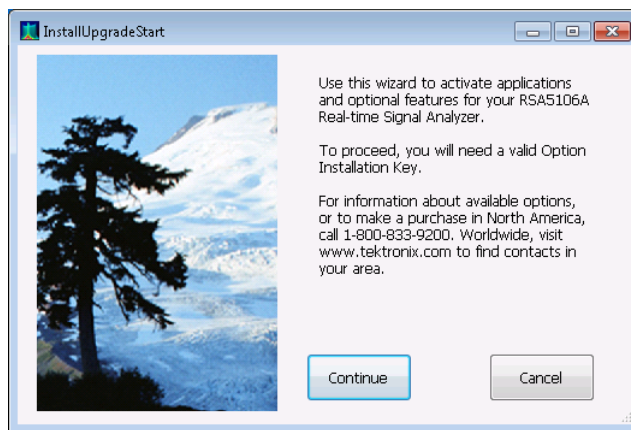

Figure 2: Starting the option upgrade
1. In the signal analyzer application, select **Tools > Install Upgrades**. The Install Upgrade wizard starts. (See Figure 2.) Click **Continue**.